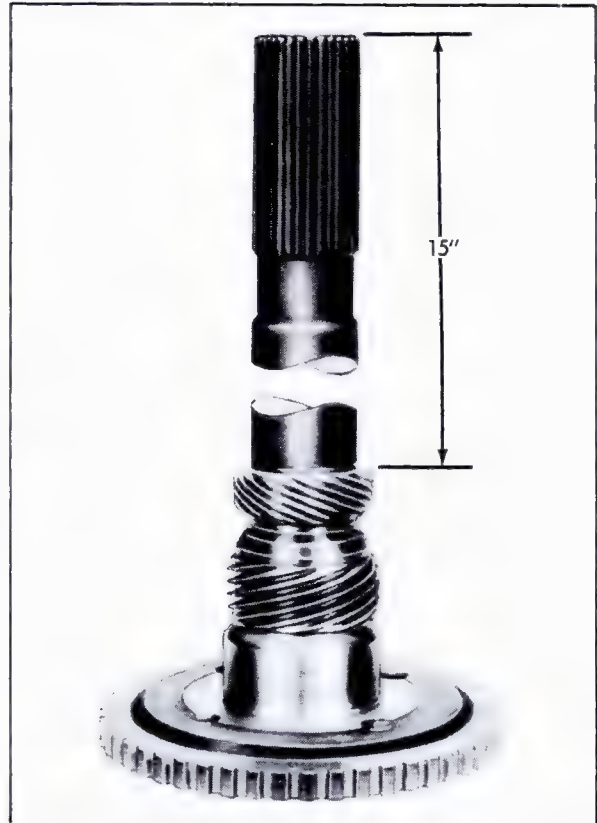

Fig. 7-95 Steel Speedometer Drive Gear Installed
4. Drive gear onto shaft until distance from rear face of gear to end of output shaft is 15 inches, Fig. 7-95.